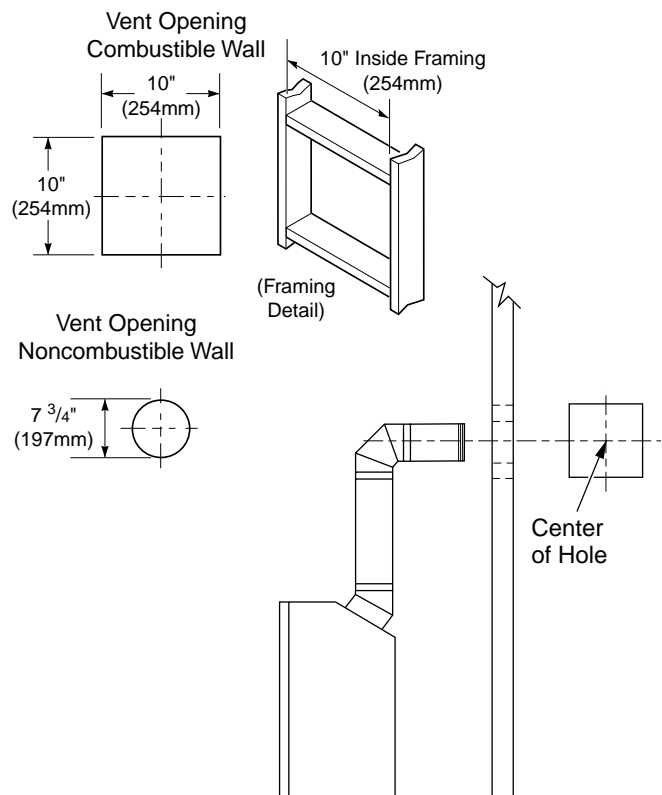
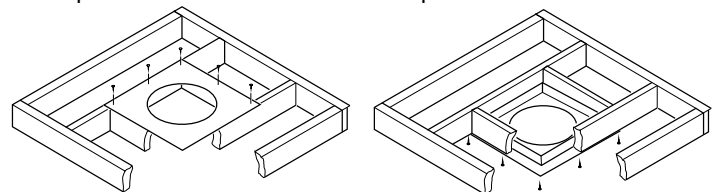

Figure 9 - Vent Opening Requirements
Figure 20 - Installing Firestop
- Carefully determine the location where the vent pipe assembly will penetrate the outside wall. The center of the hole should line up with the center-line of the horizontal vent pipe. Mark the wall for a 10" x 10" square hole. Cut and frame the square hole in the exterior wall where the vent will be terminated. If the wall being penetrated is constructed of noncombustible material, such as masonry block or concrete, a 7 3/4" hole with zero clearance is acceptable (see Figure 9).
1. Cut a 10" square hole in the ceiling using the locating hole as a center point. The opening should be framed to 10"x10" (254mm x 254mm) inside dimensions, as shown in Figure 9 on page 8 using framing lumber the same size as the ceiling joists. If the area above the ceiling is an insulated ceiling or a room, nail firestop from the top side. This prevents loose insulation from falling into the required clearance space. Otherwise, install firestop below the framed hole. The firestop should be installed with no less than three nails per side (see Figure 20).
3. Cut a hole in the roof using the locating hole as a center point. (Cover any exposed open vent pipes before cutting hole in roof.) The 10"x10" hole must be measured on the horizontal; actual length may be larger depending on the pitch of the roof. There must be a 1" clearance from the vent pipe to combustible materials. Frame the opening as shown in Figure 9, page 8.